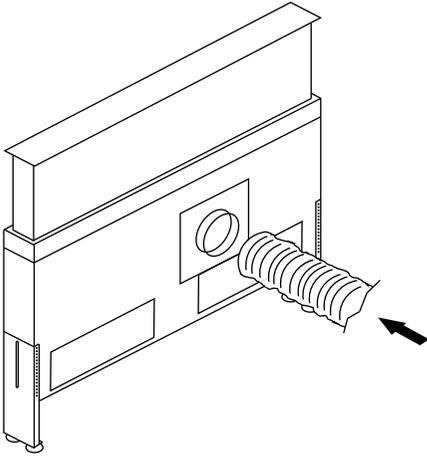

Fig 8
2. Now connect the ducting to the flange (Fig 8).